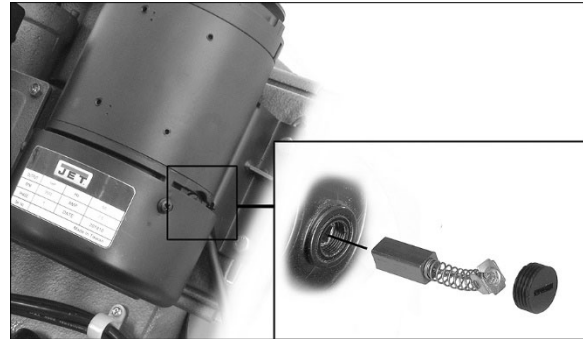

Figure 10-2: carbon brush inspection
2. Remove motor fan cover (A, Figure 10-2).
3. Unscrew and remove plastic cap with flat blade screwdriver. See Figure 10-2.